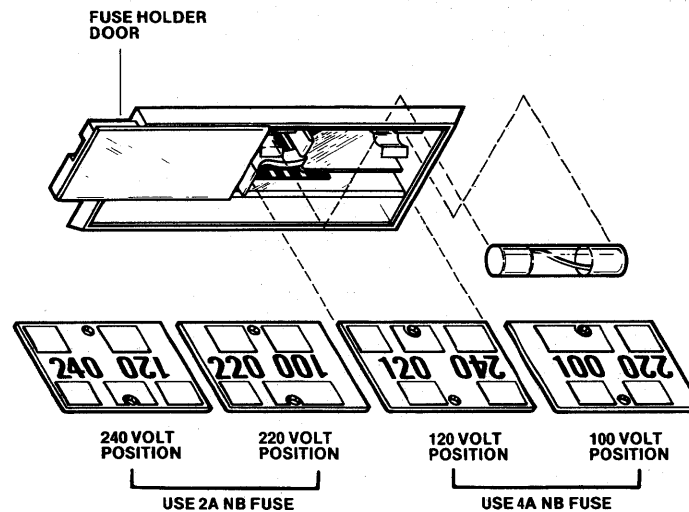

Figure 5-7. Expansion Chassis Voltage Switching Card and Fuse
- n. On rear panel of expansion chassis, disconnect power cord (if connected) and slide fuse holder door on main power socket to left. (Refer to figure 5-7.) Remove voltage switching card and reinstall it in position corresponding to your available commercial power. Verify that proper fuse is installed: 4A normal-blow fuse for 100V or 120V; 2A normal-blow fuse for 220V or 240V. Close fuse holder door.
- v. On rear panel of expansion chassis, disconnect power cord (if connected) and slide fuse holder door on main power socket to left. (Refer to figure 5-7.) Remove voltage switching card and reinstall it in position corresponding to your available commercial power. Verify that proper fuse is installed: 4A normal-blow fuse for 100V or 120V; 2A normal-blow fuse for 220V or 240V. Close fuse holder door.